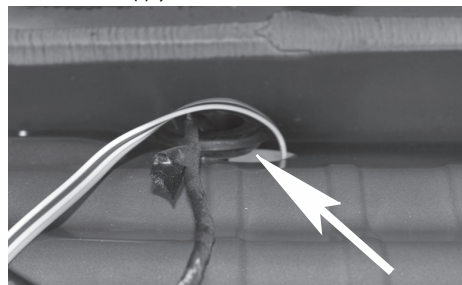

Figure 5
8. Cut cable ties on 4-Flat portion of harness. Route 4-Flat portion of RV harness with connector ends containing Green wire to grommet located in rear center wall of vehicle shown in Figure 5. Unseat grommet, make a slit in it and fit around 4-Flat wire. If so apply silicon around area to seal.